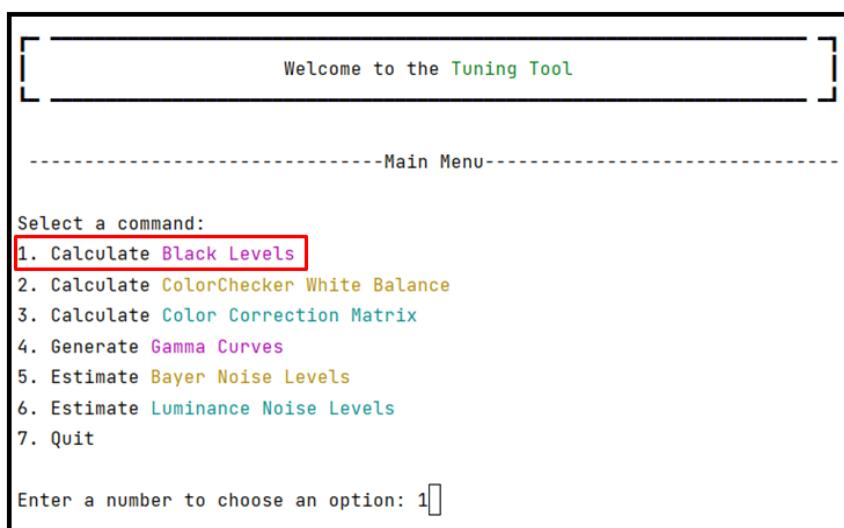

Figure 14: BLC selection from the main menu
- Open the tuning tool. Access the main menu and choose 1 to select the BLC module as seen in Figure 14.